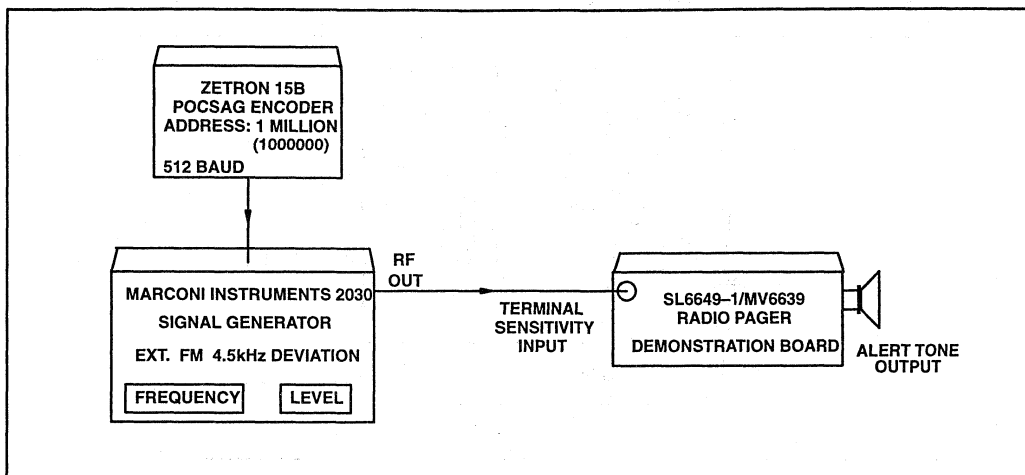

Fig. 6 Terminal sensitivity measurement set-up
h) Encode the signal generator with a POCSAG encoder as shown in Fig. 6. Reduce the signal level until 4 out of 5 calls are correctly received by the pager. This level is considered to be the terminal sensitivity and should be at -126 dBm or lower.